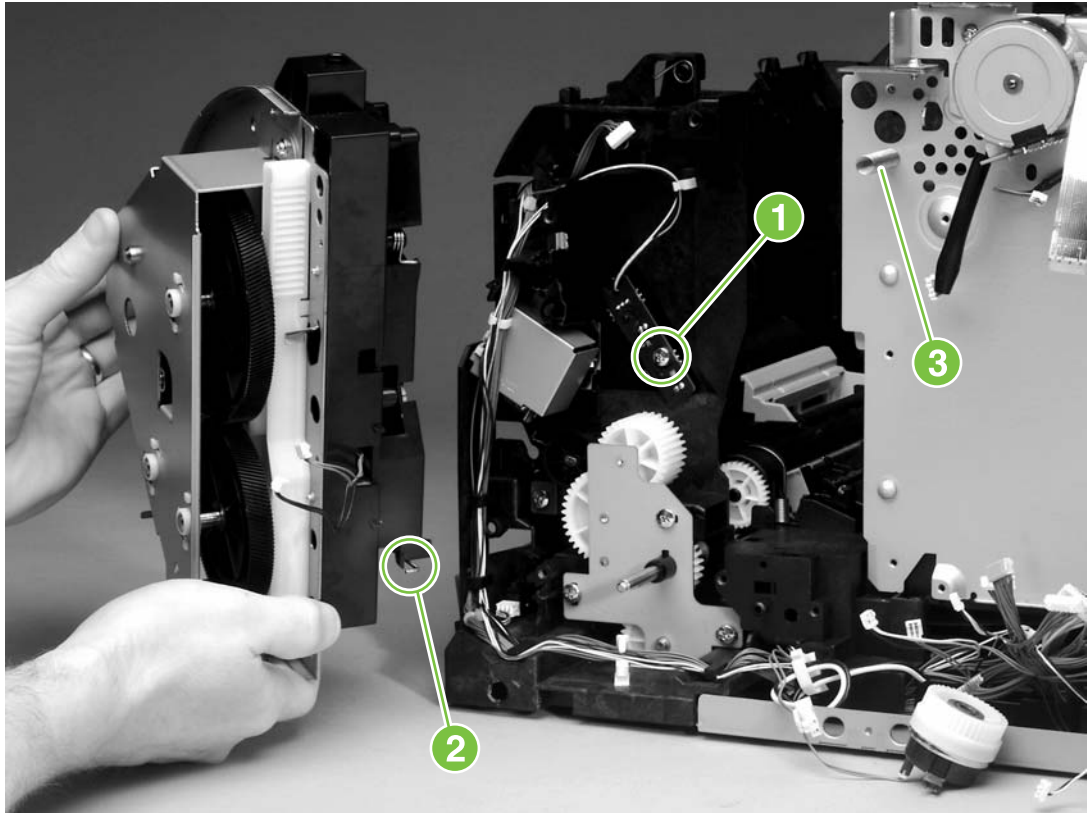

Figure 5-74 Remove the waste-toner sensor
Reinstallation tip A grounding wire at the lower-back corner of the gear assembly must be hooked around the chassis at reinstallation. Callout 2 in Figure 5-74 Remove the waste-toner sensor shows the grounding wire, and callout 3 shows the grounding spring attached to the chassis.
- Grounding spring (callout 3 in Figure 5-74 Remove the waste-toner sensor)
- Grounding wire (callout 2 in Figure 5-74 Remove the waste-toner sensor)